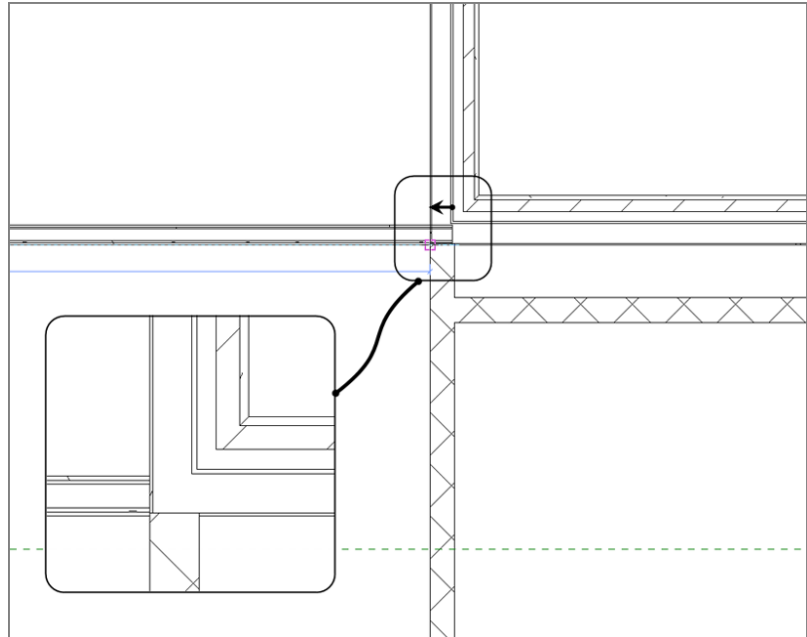

FIGURE 2.58: Slide the wall back to abut the adjacent wall.
6. When the wall is unjoined, you can pick the same blue grip and slide the wall back to where you want it to terminate (see Figure 2.58).